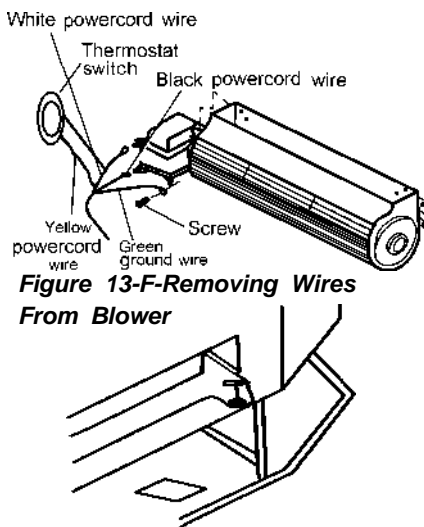

Figure 13-F-Removing Wires From Blower
2. Disconnect power cord wires from blower motor (if connected) (see Figure 13-F).
3. Disconnect green ground wire from blower housing (if connected) by removing screw holding wire terminal (see Figure 13-F).
9. Attach the terminal ends of the white and black power cord wires to the terminals on the blower motor (see Figure 13-F) Push firmly.
10. Attach the terminal end of the green power cord wire to the front tab of the blower housing using the screw provided (see Figure 13-F).